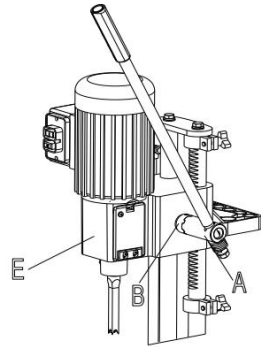

Fig. 3
2. Raise mortising machine head (E) Fig. 3, to the up position by turning handle (A)clockwise. NOTE: Handle (A) is spring-loaded and can be repositioned by pulling out handle and repositioning it on pinion shaft (B).